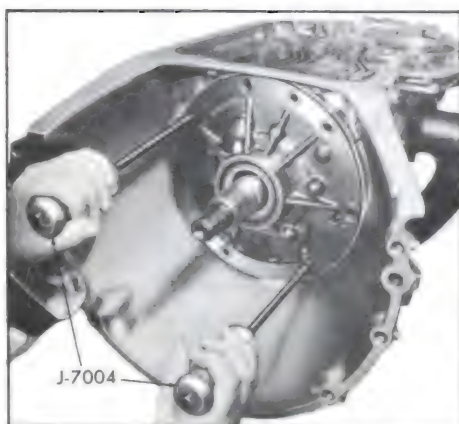

Figure 5-537
3. Install 5/16-18 threaded slide hammers, J-7004 or J-6125, into bolt holes in the pump body and remove. See Figure 5-537 pump assembly from case. (See illustration for location of threaded holes.)